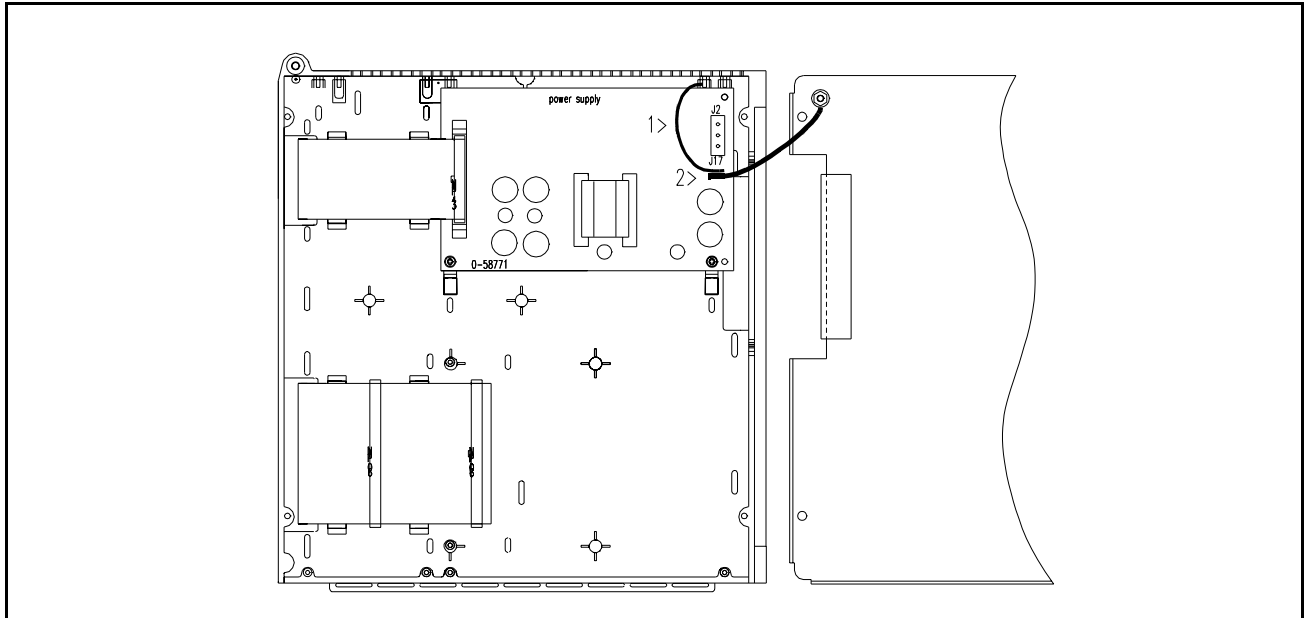

Figure 7 – Attaching the Grounding Harness to the Power Supply Board
- Step 3. Locate the Power Supply board on the back side of the carrier (see figure 7). Remove the 2 screws that fasten the Power Supply board in place. The ribbon cables will hold it in place.
- Step 5. Disconnect the ground connector (labeled 2 in figure 7) from the Power Supply board. Attach the grounding harness connector (labeled 1 in figure 7) to the spade terminal on the Power Supply board and then re-connect the ground connector to the terminal provided on the grounding harness connector.